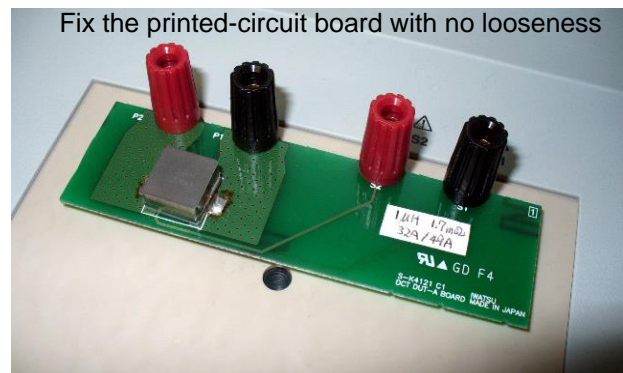

Fig. 4-14 Setting a dedicated printed-circuit board
- (2) With the parts side facing up, securely connect the dedicated printed-circuit board to the P1, P2, S1, and S2 terminals on the sample table. (See Fig. 4-14)
- (3) For a coil method of the sample, select the 1-coil method. (See ■4.13)